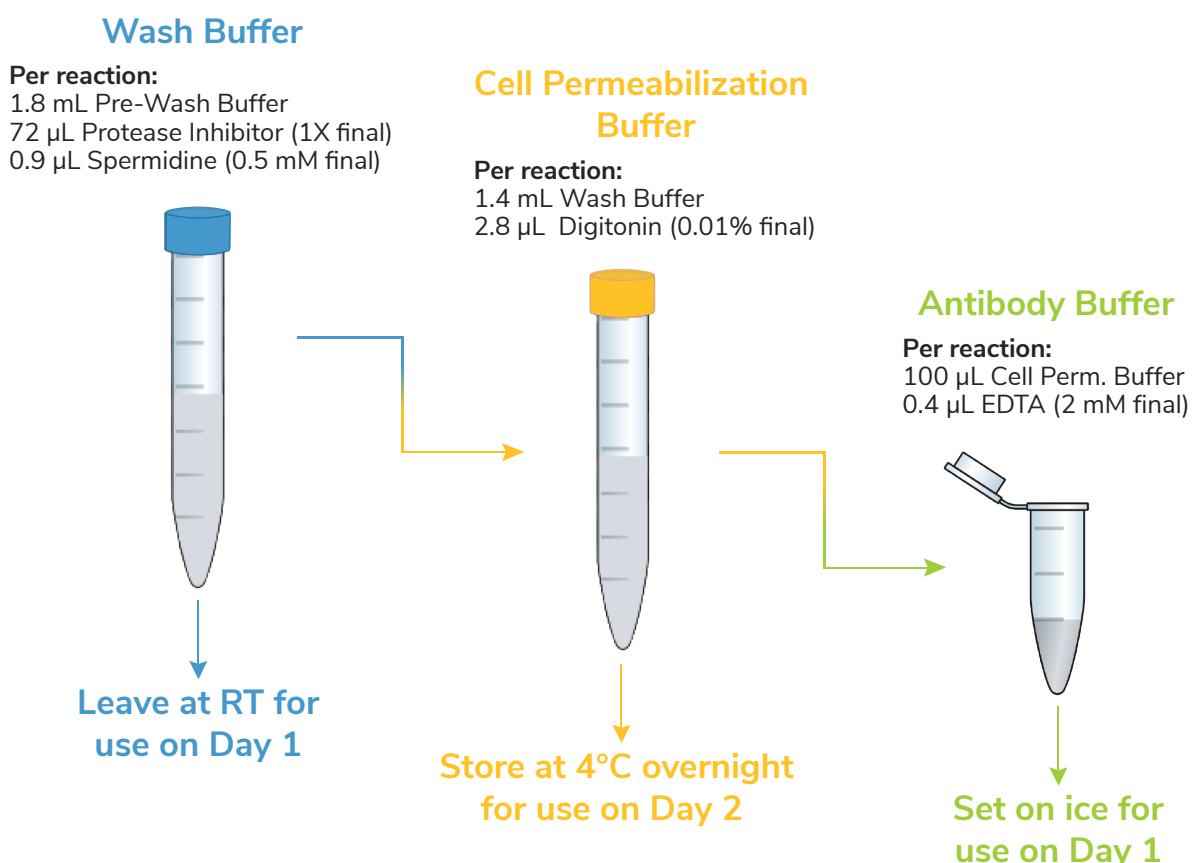

FIGURE 5
- * Buffers (Figure 5) are prepared FRESH on Day 1 of every CUT&RUN experiment.